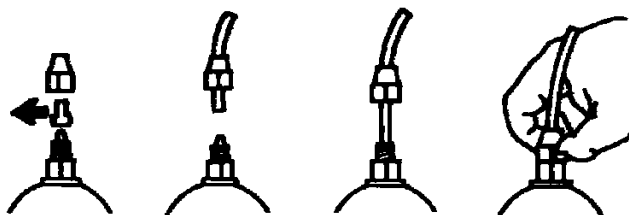

Fig. 7
- Slide out the two red protection capsules from the fittings; insert the piping all the way onto the conical attachments and lock them using the fixing rings (Fig. 7).